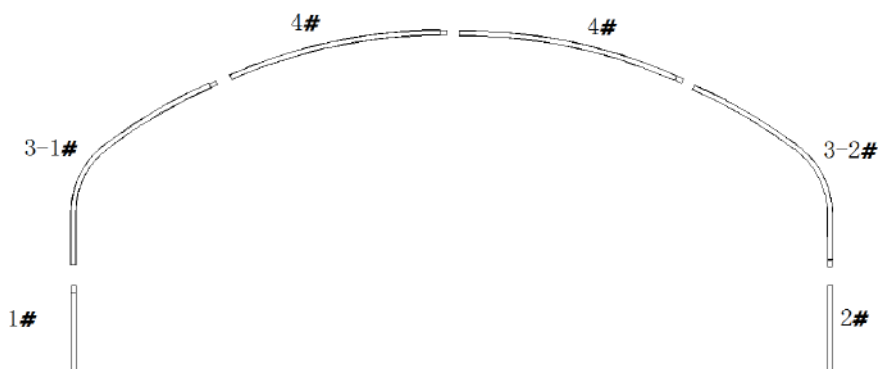

Figure 3
- Connect the tubes in the middle (Nos. 1, 2, 3-1, 3-2 and 4) using two self-tapping screws (No. 28), as shown in Figure 3.